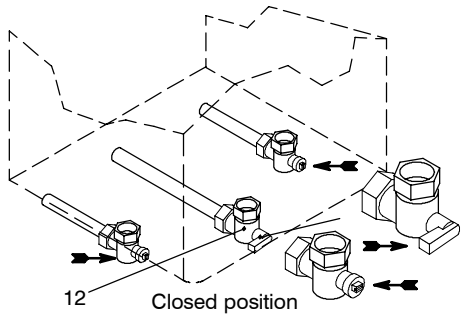

Fig. 2.8
- 2 Shut off the gas supply cock 12 and the valves for the water circuit fitted under the boiler (Fig. 2.8).
shut off the valves positioned under the boiler (Fig. 2.8 on page 6) and call an Authorised Service Centre Engineer.